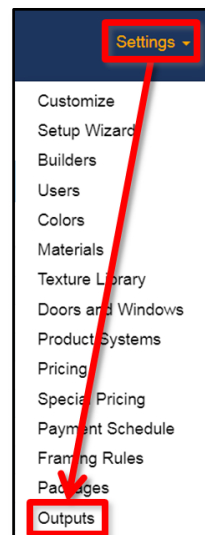

Figure 38: Select Outputs from the Settings menu.
- Log in to Roofing Passport, click on the **Settings** menu at the top of the page, and select **Outputs** from the drop-down list, as shown in **Figure 38** (right).